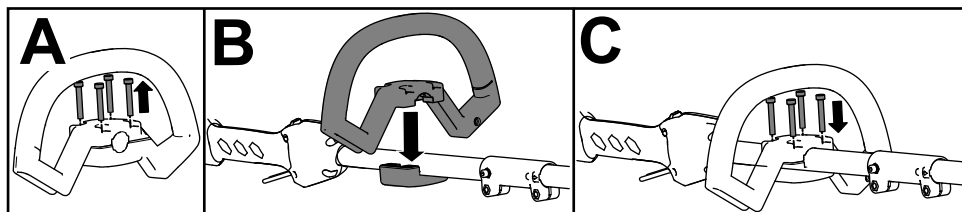

Figure 4
1. Separate the auxiliary handle from the handle plate by removing the 4 screws (A of Figure 4).
2. Line up the auxiliary handle with auxiliary handle plate on the edger handle (B of Figure 4).
3. Secure the auxiliary handle to the handle plate with the 4 screws previously removed (C of Figure 4) using the provided Allen wrench.